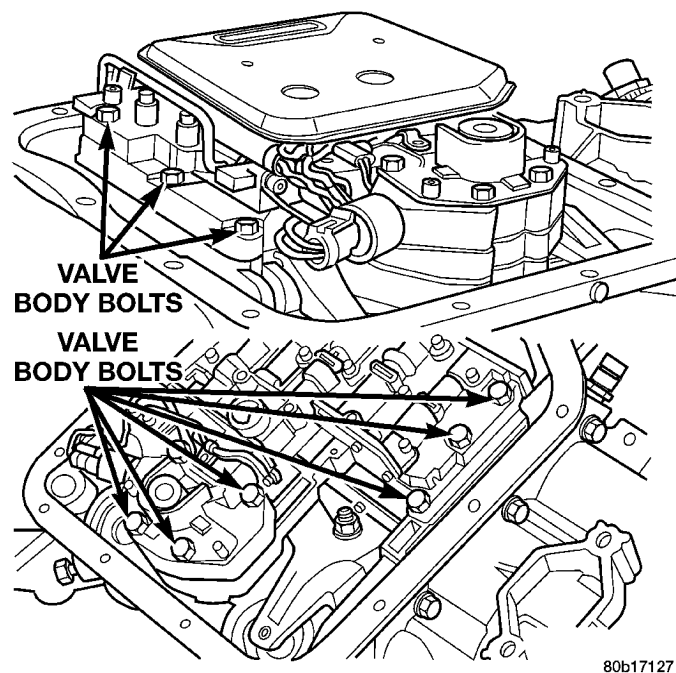

Fig. 91 Valve Body Bolt Locations
(8) Remove park/neutral position switch.
(9) Remove hex head bolts attaching valve body to transmission case (Fig. 91). A total of 10 bolts are used. Note different bolt lengths for assembly reference.